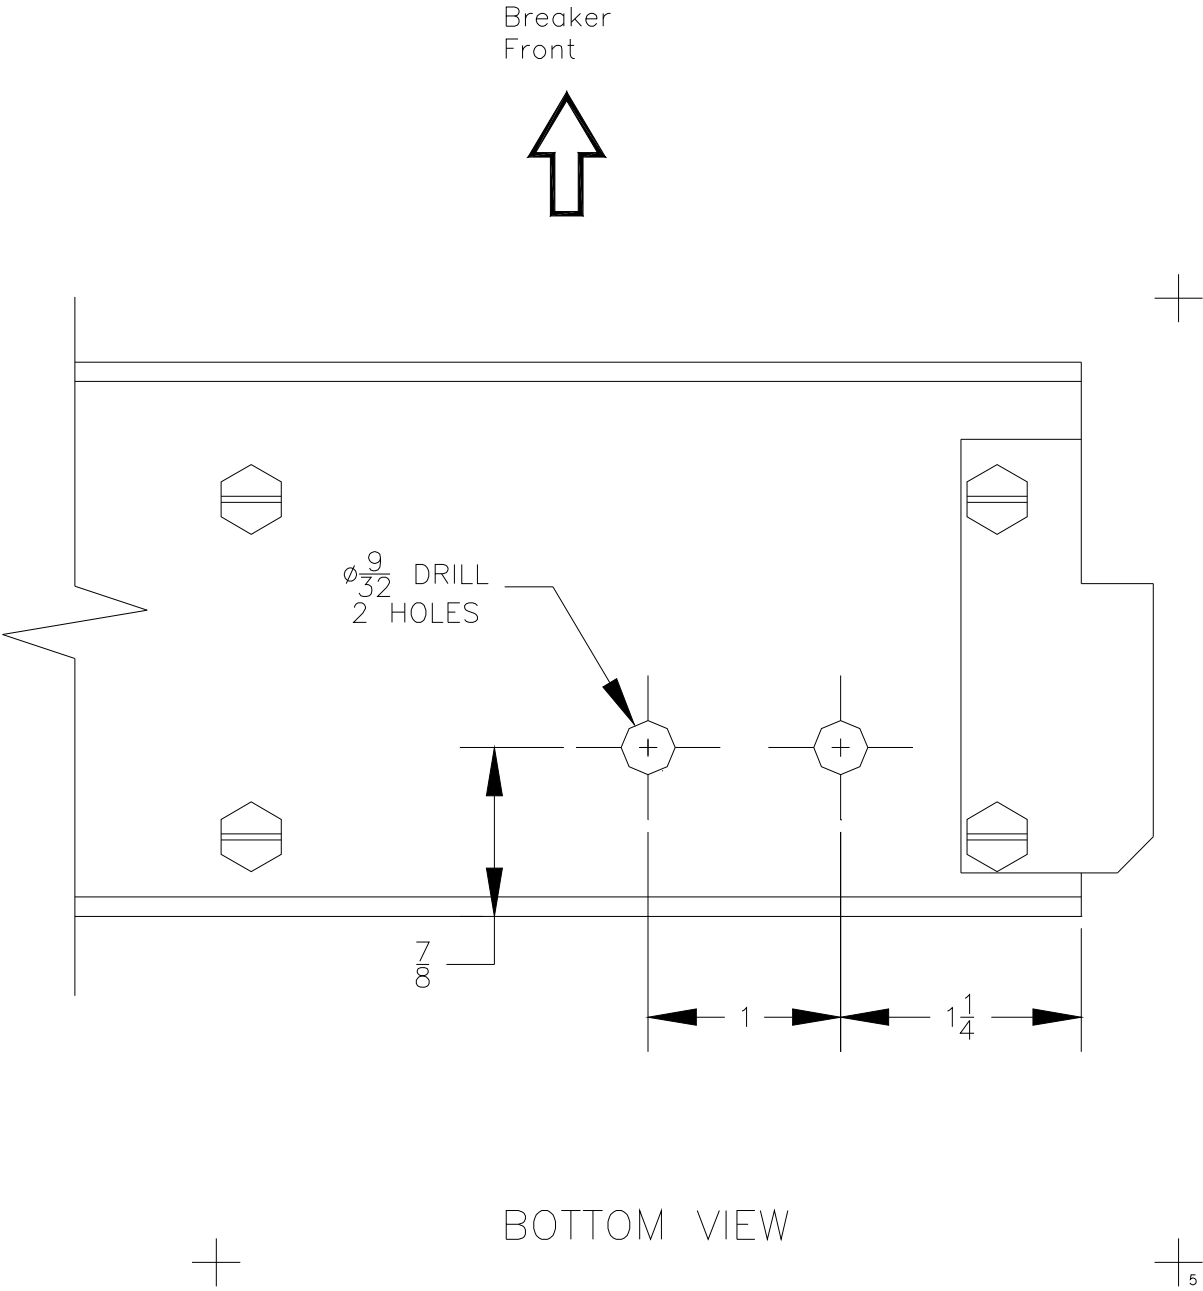

FIGURE 6
- 1) Using the template from Figure 6, drill two (2) 9/32 holes in the right side of the mechanism frame. The template should be placed on the bottom of the frame and the frame drilled from the bottom.